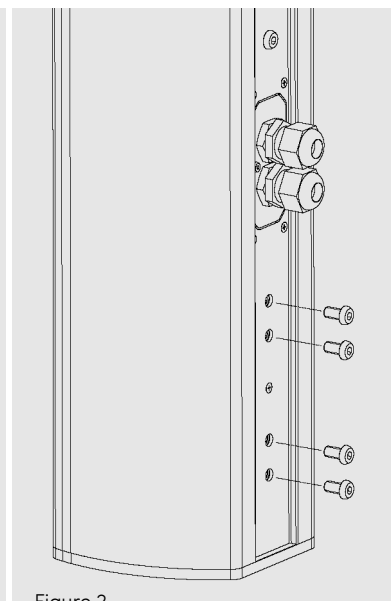

Figure 2
2. Remove the four to six M6 oval-head screws that are located underneath the connector panel. **SEE FIGURE 2.**